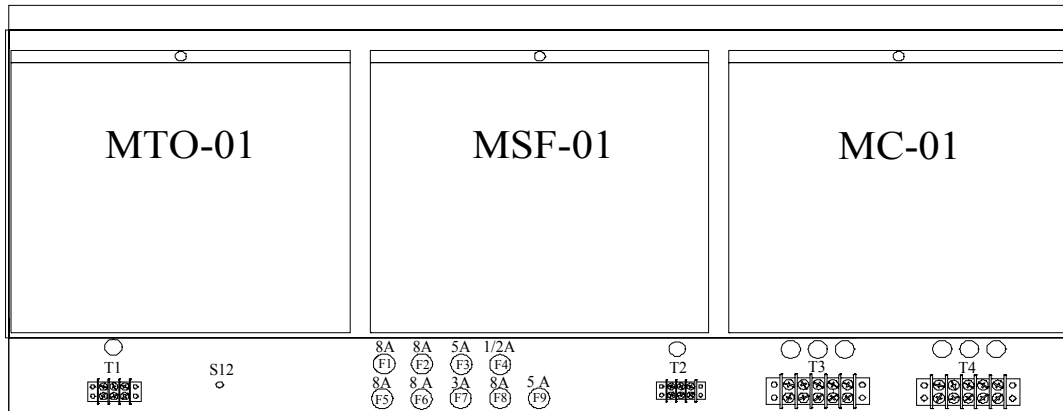

Figure 8 Upper Access Panel Removed
2. Figure 8 shows the view behind the access panel. Feed the power cables through one of the holes in the plate below the access panel.